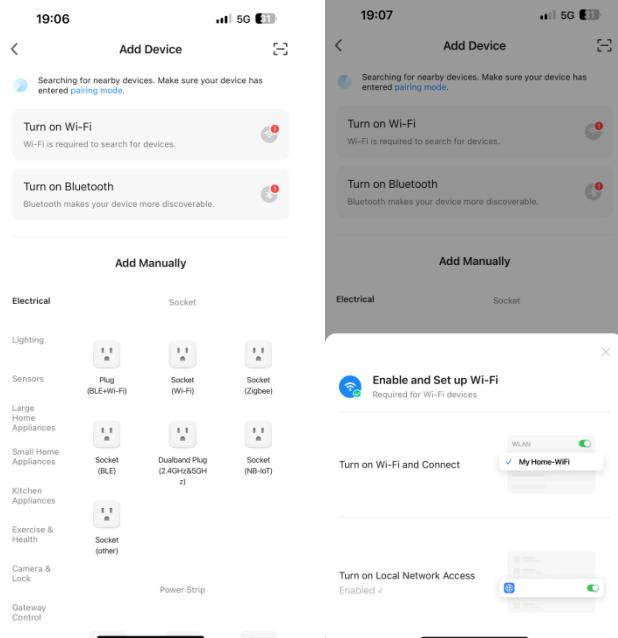

Fig.2
- 3.2.In this mode, allow the app to access Wi-Fi and Bluetooth for searching for devices. Wi-Fi devices can be found only when Wi-Fi is enabled. Nearby Bluetooth devices can be found only when Bluetooth access is allowed.(Fig.2)